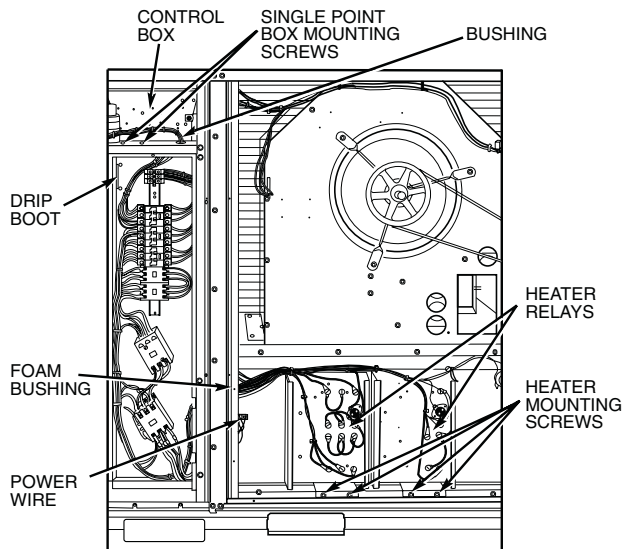

Fig. 3 — Typical Single Point Kit Installation
4. Remove the single point box cover. Secure single point box to the underside of the control box with the 2 screws provided (Fig. 3).
7. Fasten heater module to heater mounting bracket with the 4 screws saved from Step 6 (Fig. 3).
8. Route power wires from heater module(s) through the foam bushing in the center partition and into the single point box (Fig. 3).
9. Install bushing in hole between control box and single point box. Route unit power pigtails through bushing (Fig. 3).